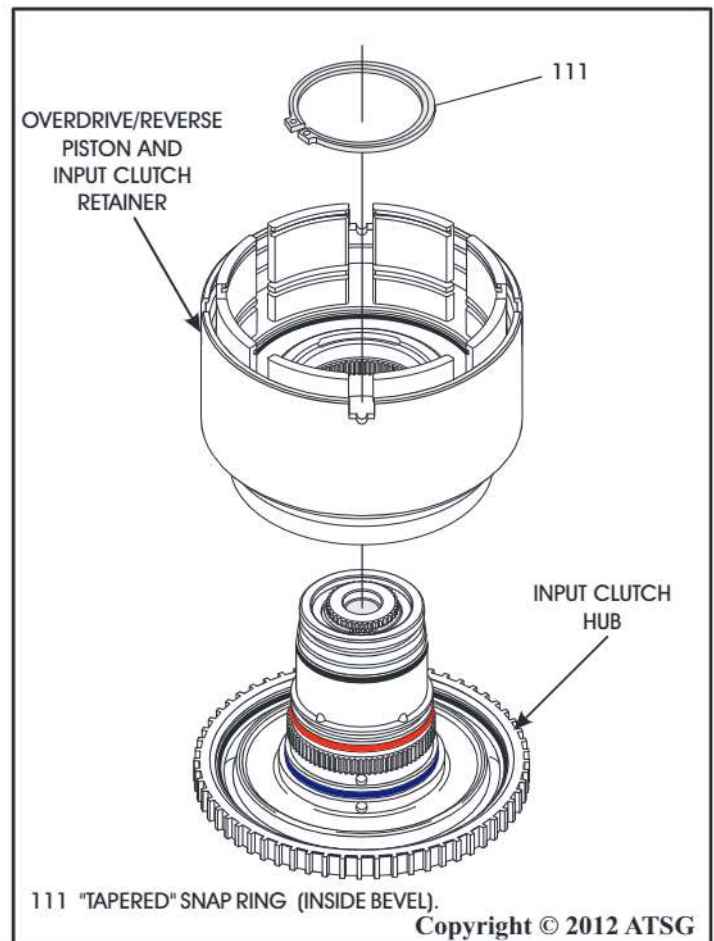

Figure 183
15. Lubricate the "O" rings and lip seal on the input clutch hub and install overdrive/reverse & input clutch retainer assembly onto the input clutch hub, as shown in Figure 183.
17. Install the tapered snap ring with inside bevel facing up, as shown in Figure 183, and eyelets in cavity of the input clutch retainer.